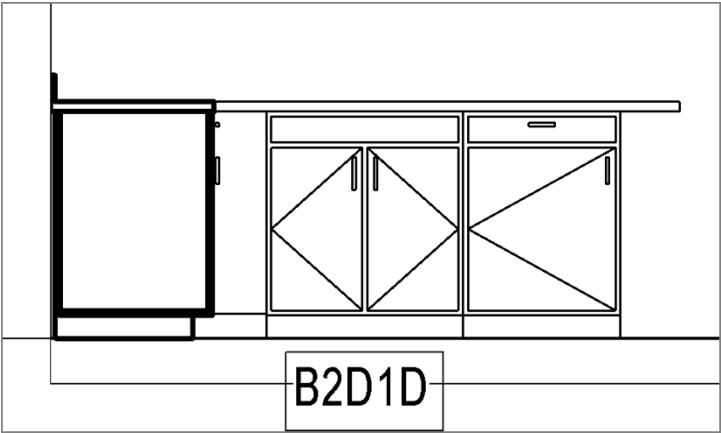

FIGURE 11.82: Renaming the tag
8. Rename the tag B2D1D, as shown in Figure 11.82, and then click Yes.